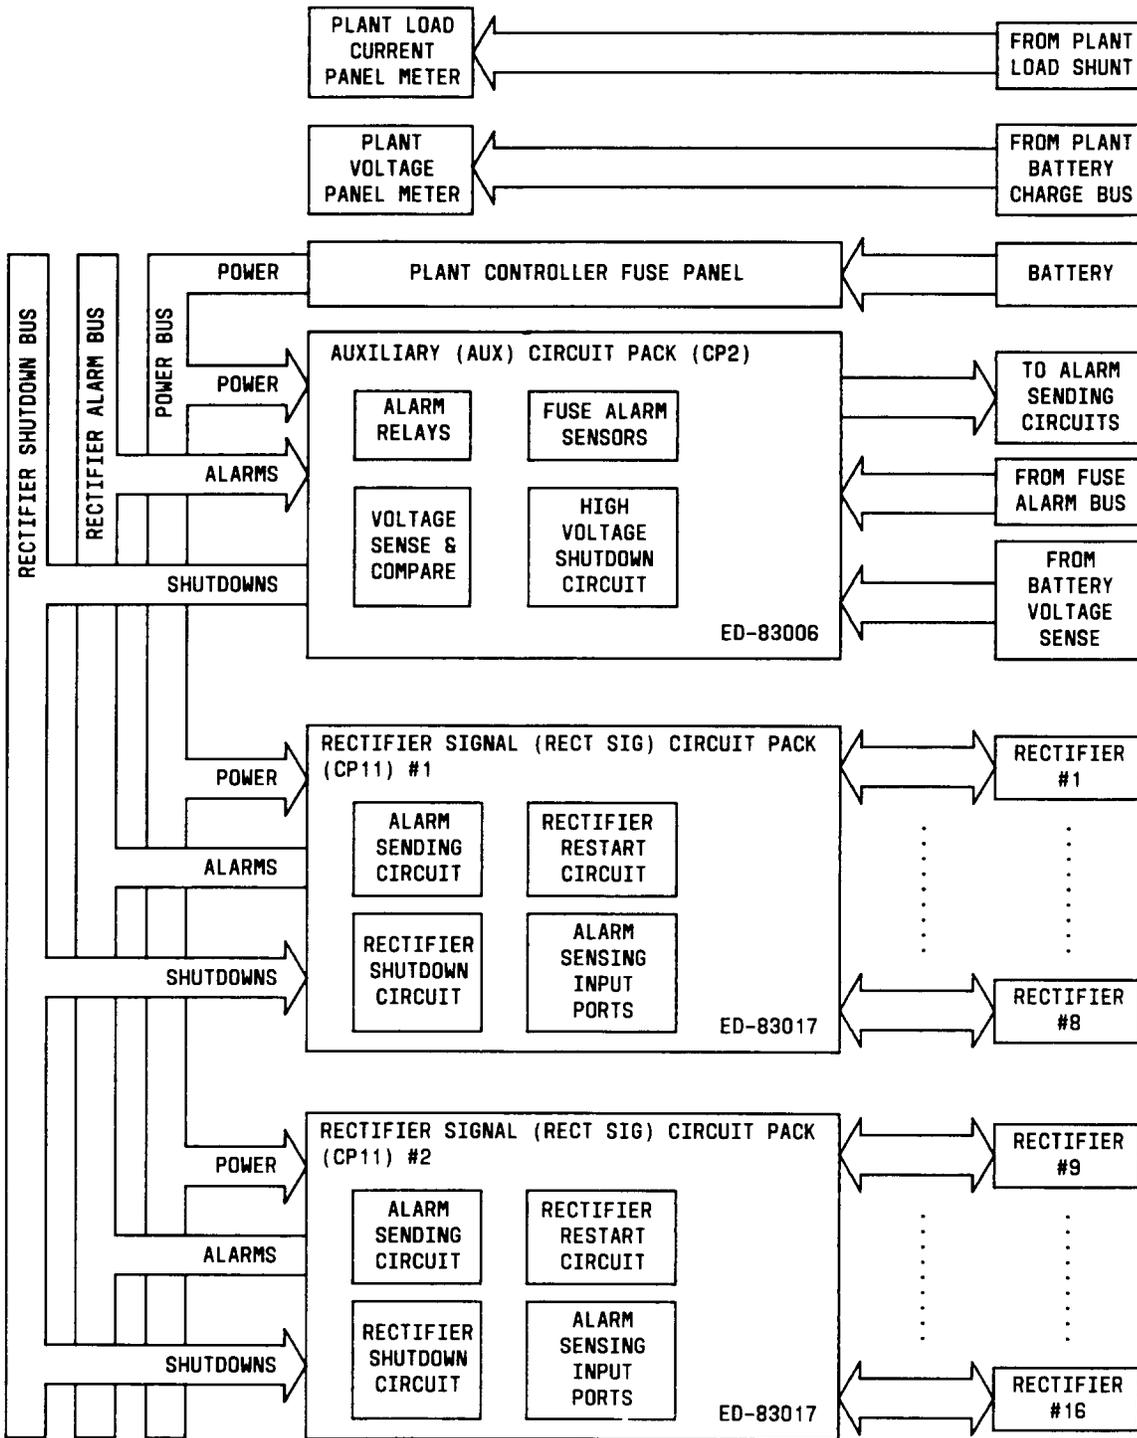

Fig. 9—Conventional Plant Controller Block Diagram
**3.25 General:** The conventional plant controller manages the plant to provide load current and battery float voltage and recharge capacity. The plant voltage and load current are displayed on the analog PLANT VOLTAGE and PLANT LOAD CURRENT meters on the front panel. (See Fig. 3.) Refer to Fig. 9 for the conventional plant controller interface block diagram. Behind the panel faceplate (hinged to open downward) (Fig. 4) are 16 fuse positions (F1 through F16) for rectifier REG fuses. Below the REG fuses are six fuse positions to provide the following: